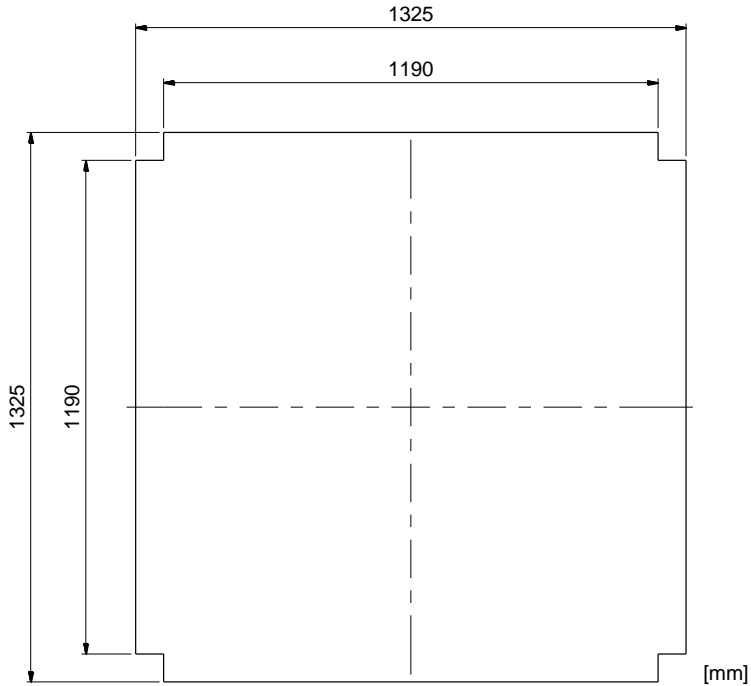
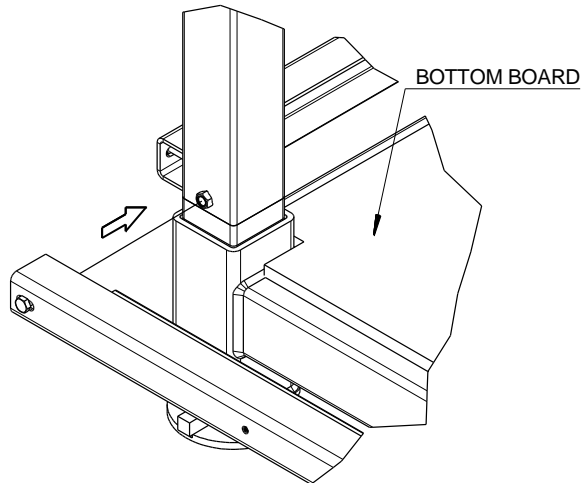

Figure 21. Dimension of the bottom plywood board. (Art. 11540)
Figure 22. *Example of placement of FORMWORK SUPPORT.*
- 5.1 Check that that all four CORNER POSTS are inserted correctly into the BOTTOM FRAME. Use the BOTTOM BOARD or cut a piece of 18 mm Formwork Plywood, complying to EN 636-3, to the format as shown in Figure 21 and place in the centre of the BOTTOM FRAME. Bolt the eight FORMWORK SUPPORTS to the welding nuts. Use the bolts attached to the FORMWORK SUPPORT and make sure that they are tightened firmly, see Figure 22 for illustration.